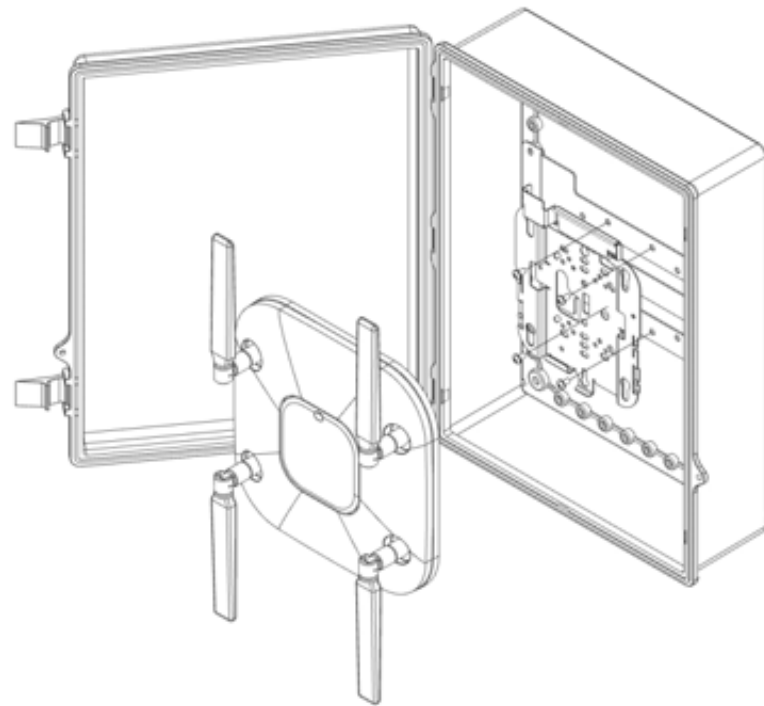
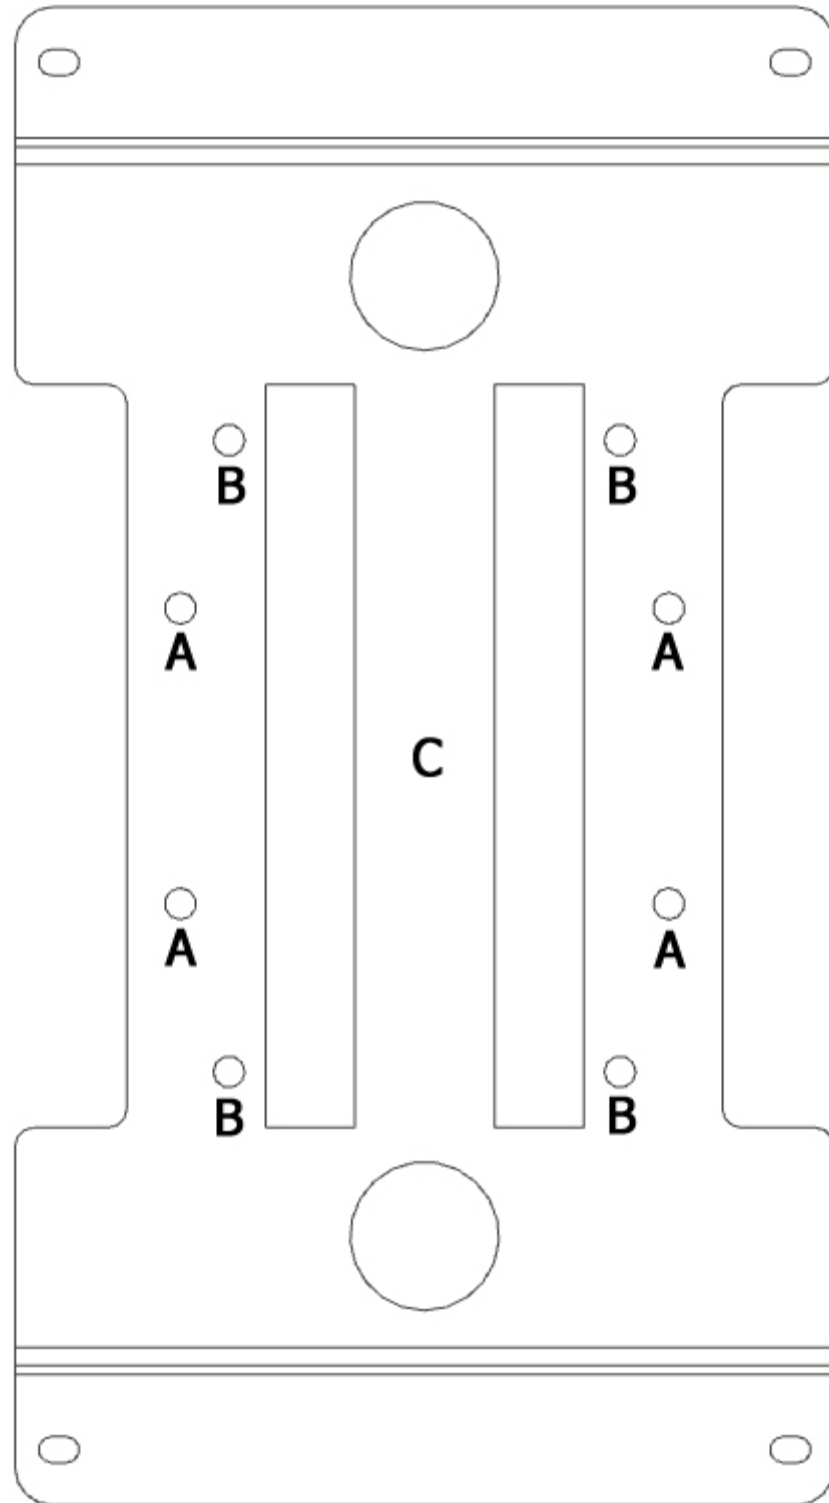

Figure 1
Figure 4
Step 2 – Use the *mounting hole legend* to determine the mounting hole locations for the type of *access point* chosen. Securely fasten the *access point's mounting plate* to the enclosure mounting plate using (4) # 8-32 screws as defined by the mounting hole legend (Figure 4). The mounting plate has a convenient T-bar mount to attach any Access Point that has an attachable T-Bar clip. Use **Cisco AIR-AP-BRACKET-2 for 2600e/3600e series Access Points and AIR-AP-BRACKET-1 for 3500e series.** (Figure 1)